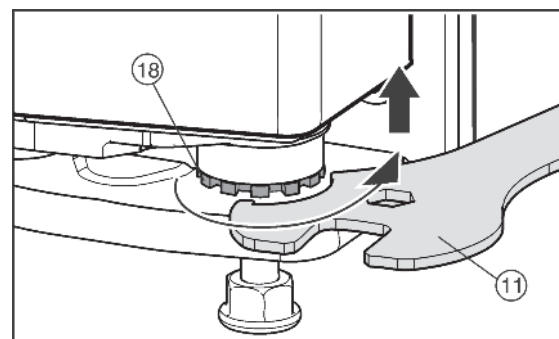

Fig. 31
- ▶ To lift the door unscrew the bearing pin *Fig. 31 (18)* clockwise using the supplied open-end wrench *Fig. 31 (11)*. The appliance is delivered from the factory with the bearing pin screwed in completely.